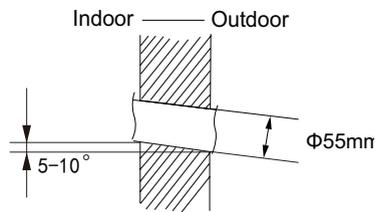

Fig.2
(2) Open a piping hole with the diameter of  $\Phi 55\text{mm}$  on the selected outlet pipe position. In order to drain smoothly, slant the piping hole on the wall slightly downward to the outdoor side with the gradient of  $5\text{--}10^\circ$ . (As show in Fig.2)